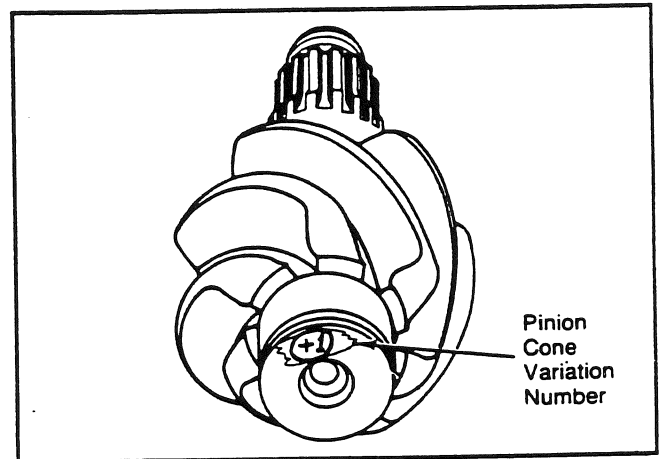

Fig. 47
2. Look at the pinion cone ("PC") variation number on the drive pinion that is being replaced. The location is on the end of the pinion gear head. Record the number for later use (see Fig. 47).